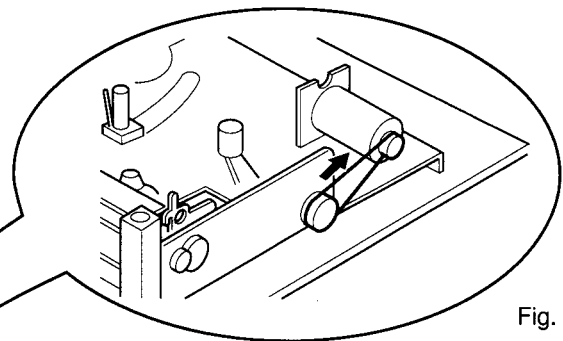
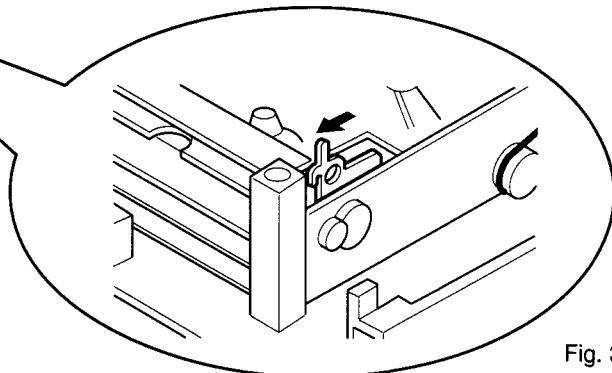

Fig. 2
Fig. 3
Turn the loading motor pulley in the direction as indicated by Fig.2. As both ① and ② levers are lodged twice, push the levers in the direction as indicated by Fig.3 to release them. When pushing the levers, do it in the order of ①, ②, ②, ①. When the holder has been lowered, turn the pulley until the cassette holder is securely in place without allowing any up/down movement.